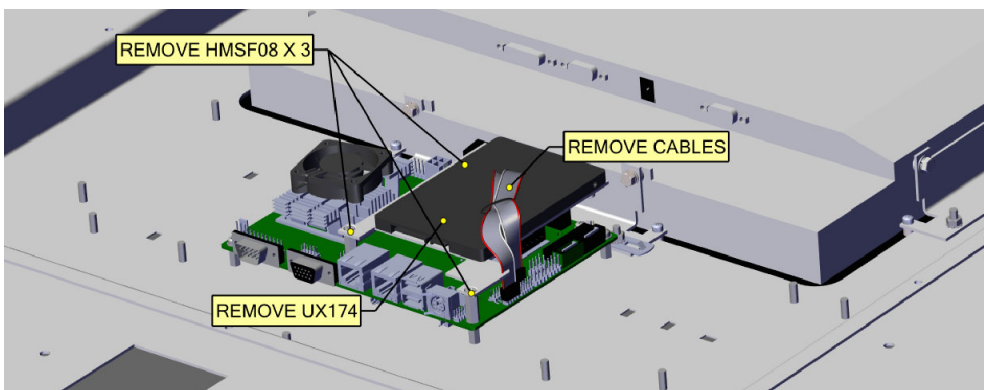

Figure 2: SSD Drive Removal
(g) Remove the three (3) M3 screws securing the SSD Drive and retain. Refer to Figure 2 for steps (f) and (g).